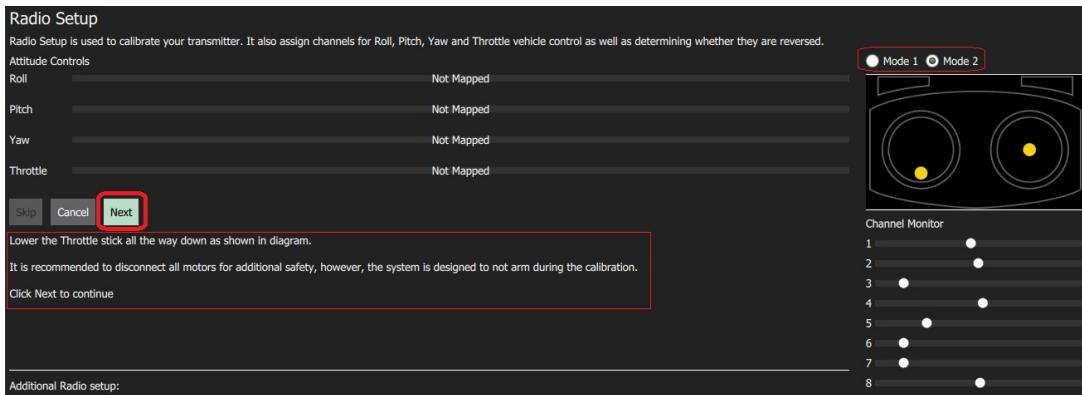

Figure 3.17: Radio setup - move sticks
5. Set the transmitter mode radio button that matches your transmitter (this ensures that *QGroundControl* displays the correct stick positions for you to follow during calibration). See figure 3.17